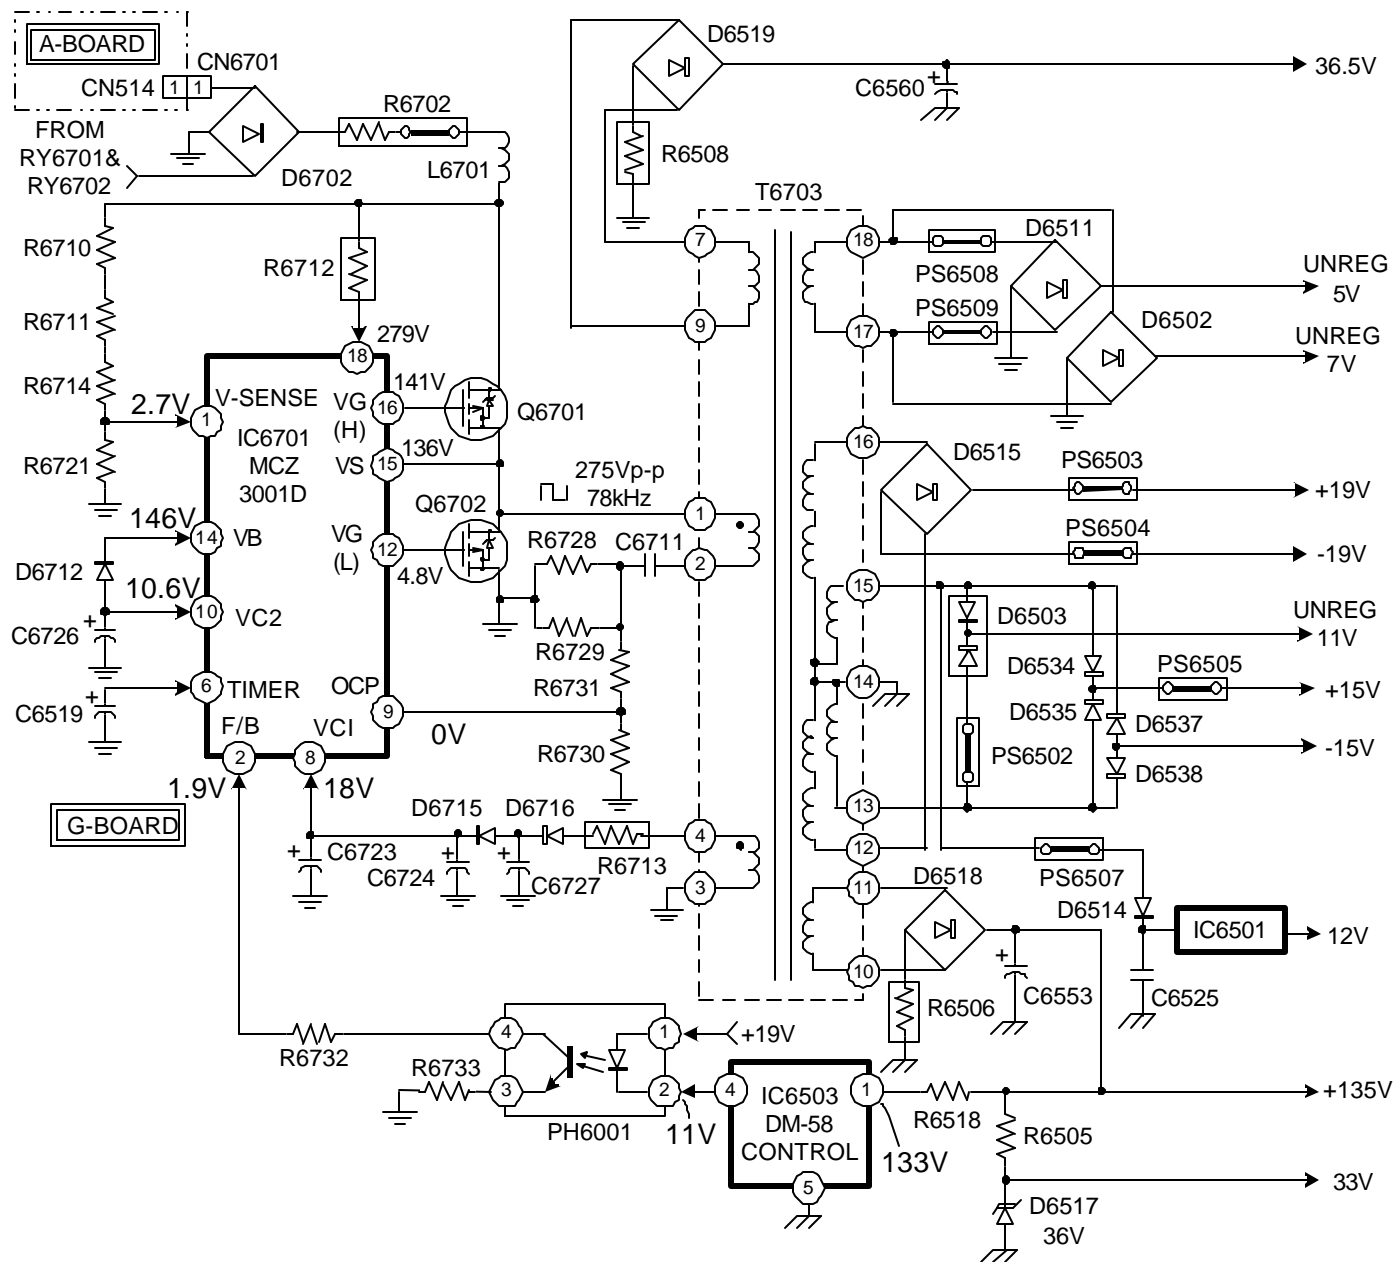

FIGURE 3-7 - DA-4X MAIN POWER SUPPLY CIRCUIT
Reference Figure 3-7 for the following circuit description:
Over Current Protection (OCP): ref. Figure 3-7
- IC6701 Feedback circuit. The amount of current feedback can be determined by monitoring the voltage drop across R6732. The minimum current feedback is 80uA, which is a minimum voltage drop of 37.6mV. In normal operation, this voltage drop is approximately 223mV. If the voltage drop is below 37.6mV, suspect components in the feedback path, e.g. PH602 and IC604. Reference Figure 3-7 for proper voltages at these components.